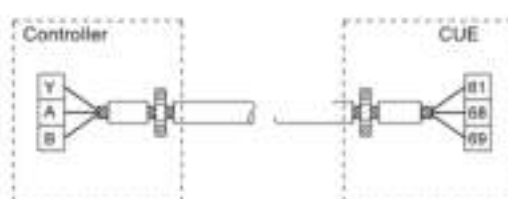

Fig. 155 Example of connection of a 3-conductor bus cable
- Connect the screen to frame at both ends for both motor and signal cables. See fig. 155. If the controller has no cable clamps, connect only the screen to the CUE cabinet. See fig. 156.